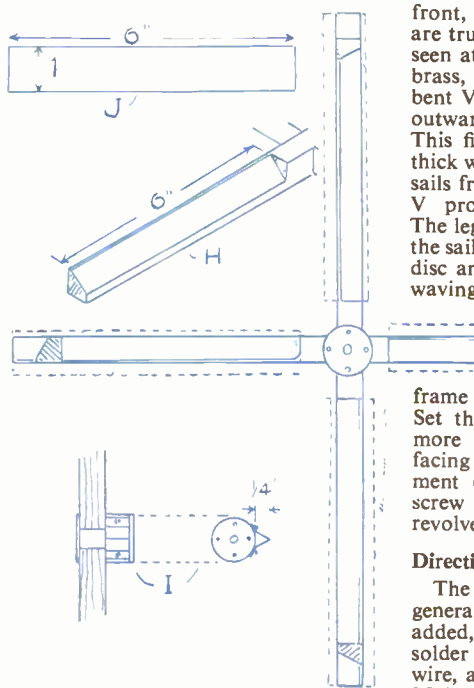

Fig. 5
Fig. 5 shows part of the sails with relative details. The frame is composed of two 14 in. lengths of $\frac{1}{4}$ in. square section stripwood, fixed together at right angles with a halved joint. A portion of each arm is bevelled as at (H), the angle being 30 degrees. Note that the bevels all face in a clockwise direction.